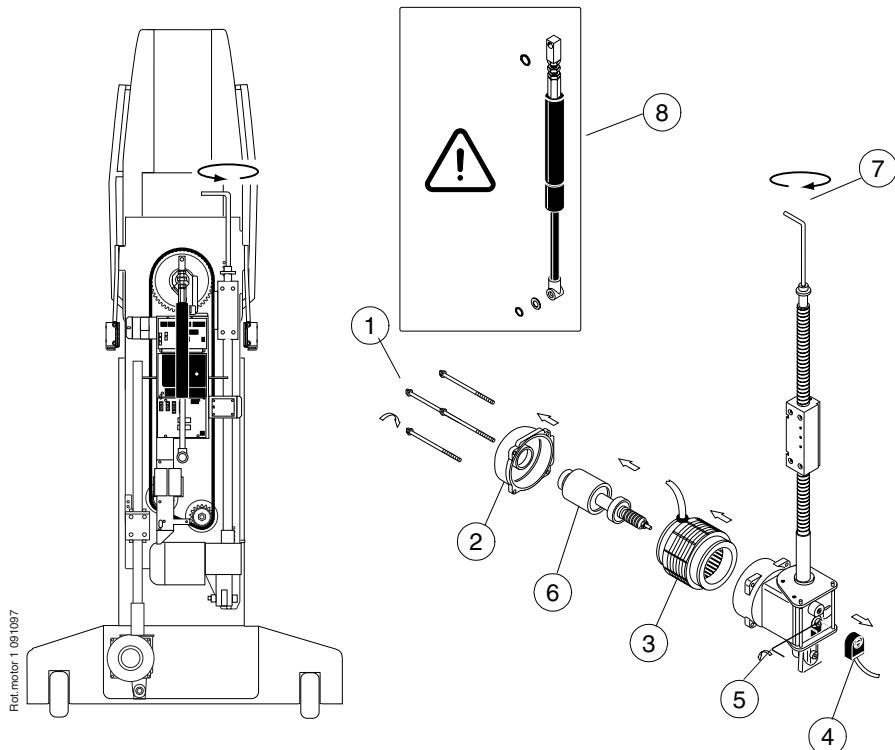

Figure H.32
- a) Open the four bolts of the motor cover (Fig. H.32, 1) and remove the cover (Fig. H.32, 2).
- b) Remove the stator (Fig. H.32, 3).
- c) Remove the rotation sensor assembly (Fig. H.32, 4).
- d) Open the pulse detector screw with the special Allen key (delivered with the rotation motor assembly) (Fig. H.32, 5).
- e) Remove the rotor (Fig. H.32, 6).
- f) Rotate the rotation motor worm-screw with 8 mm Allen key (Fig. H.32, 7) to move the C-arm to upright position. The gas spring (Fig. H.32, 8) can be removed in this position.